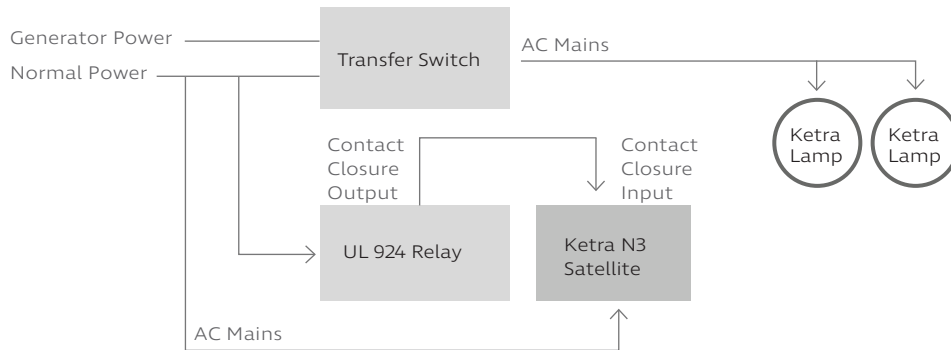

fig. 6
- If the contact-closure N3 Satellite does not have attached emergency fixtures, *it does not need power in an emergency*. Consequently, it can use normal power, as shown in fig. 6.